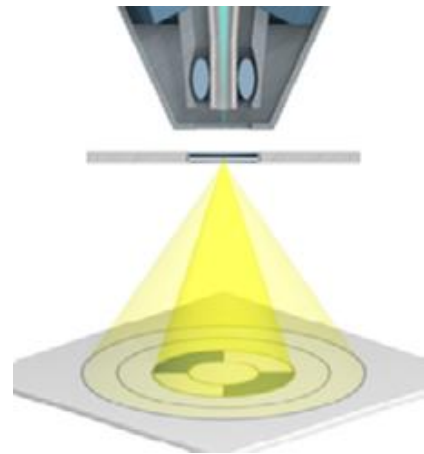

Figure 6 - Schematic showing STEM mode
Previously prepared thin lamellae can be imaged with the STEM detector in a variety of modes, including bright field (BF), dark field (DF) and high angle annular dark field (HAADF). BF mode can be used for crystalline samples, DF and HAADF modes can be used for amorphous materials. Figure 6 is a schematic showing STEM mode.